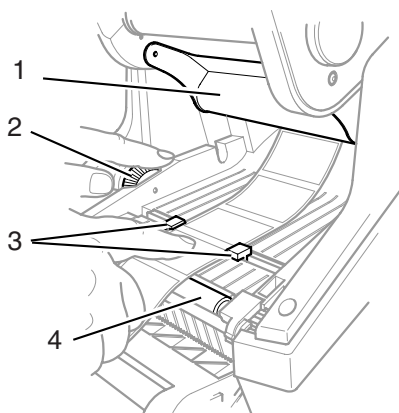

Figure 11, Tear-Off Mode
2. Position the label strip between the label guides (**Figure 11, 3**) and turn the adjustment wheel (**Figure 11, 3**) to snug the guides just up against the label strip. Be careful not to tighten the guides against the label strip enough to crimp the label strip.